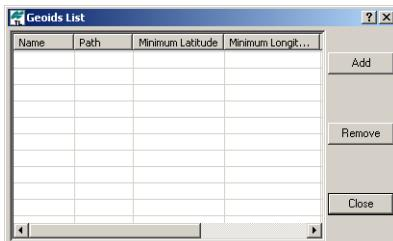

Figure 3-95. Geoids List Dialog Box
2. On the **Geoids List** dialog box, click **Add** (Figure 3-95).